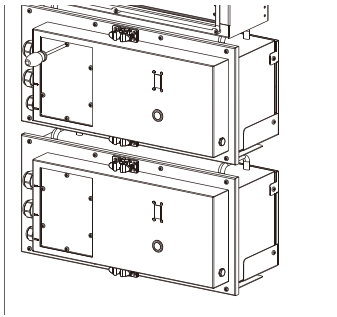

Figure 2.33 Remove the Maintenance Cover of M4856-P
Step 16 Remove the maintenance cover (Figure 2.33)